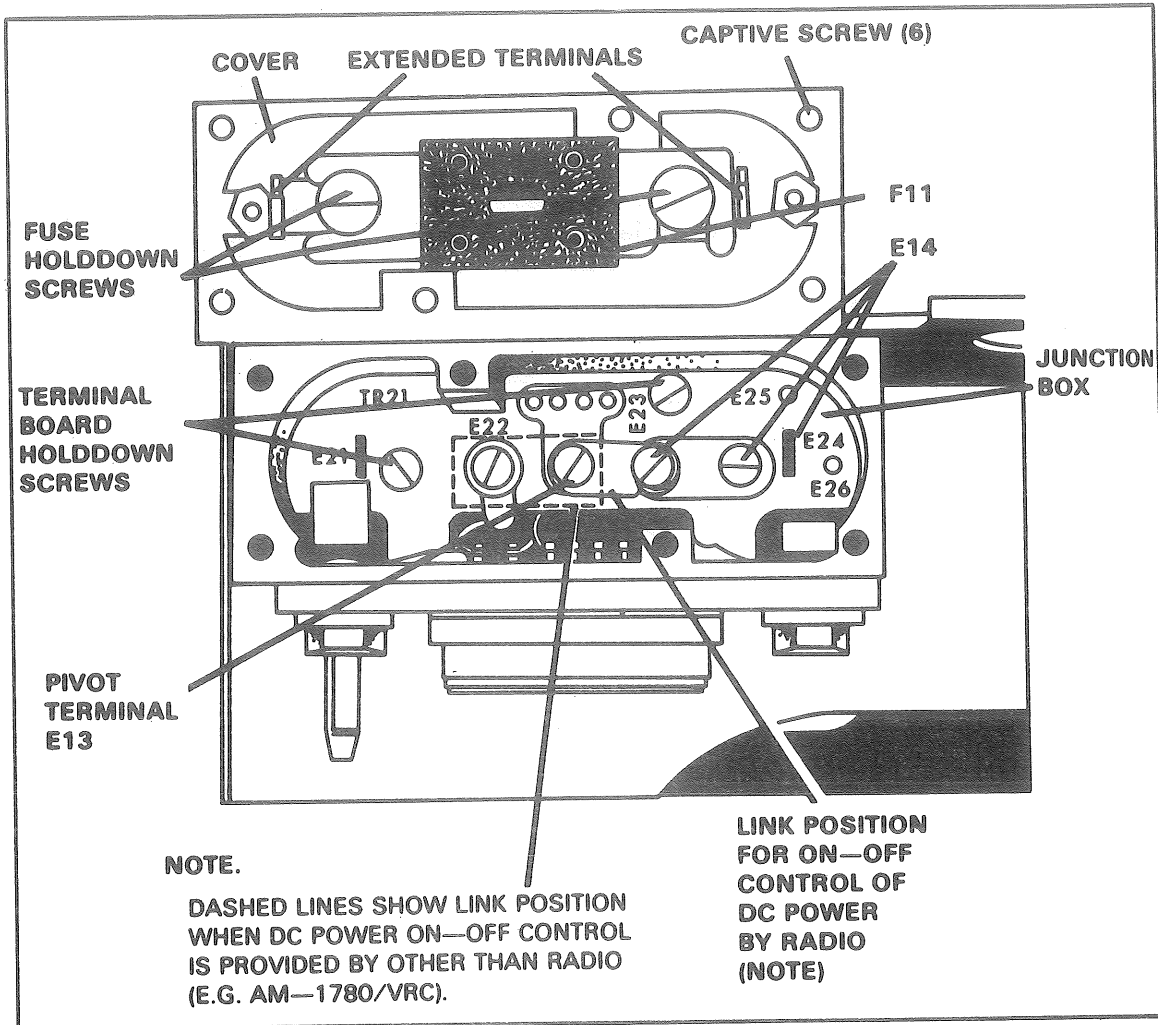

Figure 2. MT-1029 Junction Box (Link).
- a. Insure that the mount links are in the proper position. Power to the radio set is controlled by the Amplifier AM-1780 (fig 2).